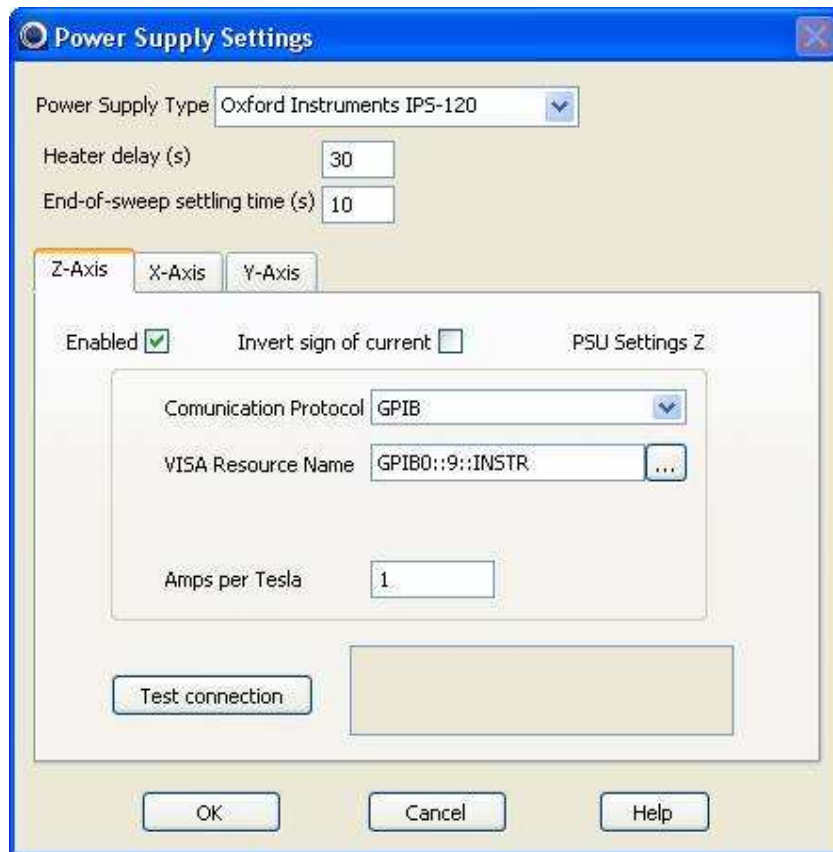

Figure 7 GPIB dialog for IPS120
- For GPIB, Figure 7 appears. The GPIB address is set on the instrument.